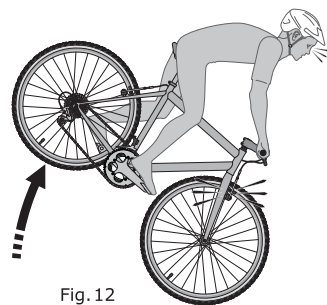

Fig. 12
2. Applying brakes too hard or too suddenly can lock up a wheel, which could cause you to lose control and fall (Fig. 12). Sudden or excessive application of the front brake may pitch the rider over the handlebars, which may result in serious injury or death.